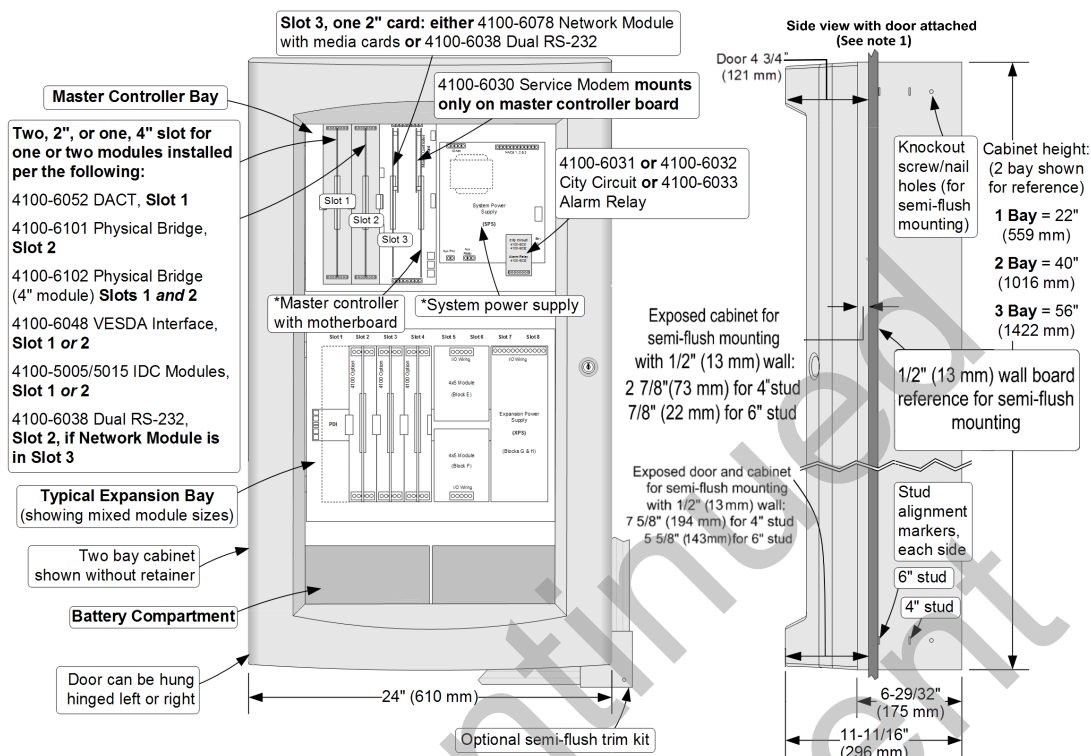

Figure 5: Mounting and CPU Bay Module Reference
2. Asterisks (\*) in Figure 5 indicate supplied modules.